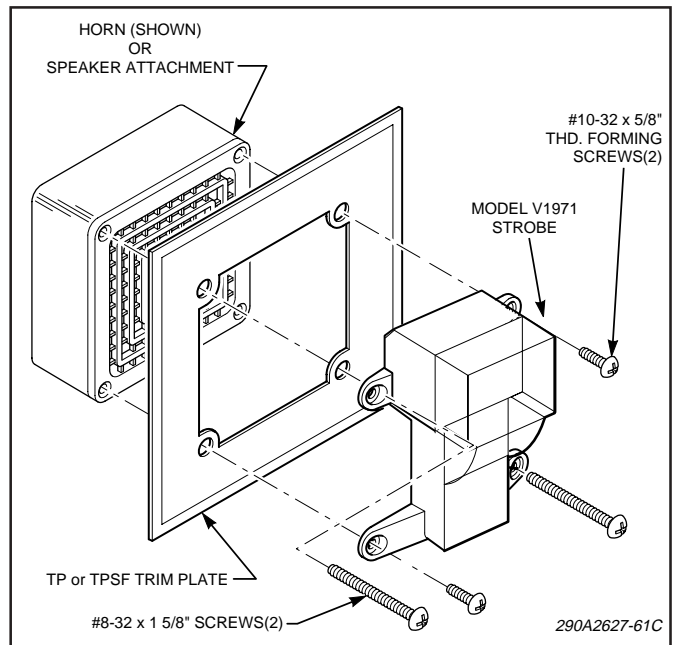

Figure 4. TP or TPSF Trim Plate Mounting.
2. TP, TPSF Trim Plates (see figure 4).
Route the strobe unit's wire leads through the trim plate and horn or speaker. Secure the assembly together using the two #10-32 x 5/8 thread-forming screws (supplied) as shown in figure 4. Perform the electrical connections described in paragraph II.C. Electrical Connections, and then secure the assembly to an approved backbox using the supplied #8-32 x 1-5/8 screws (or the screws supplied with the approved CPG horn or speaker).